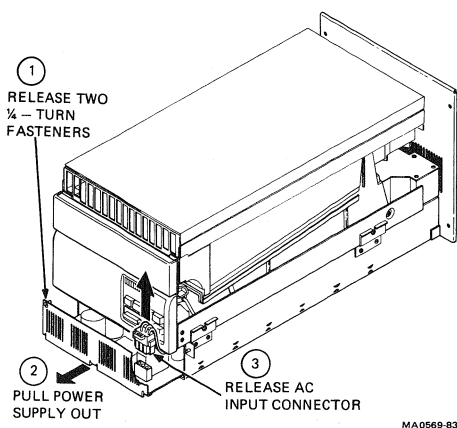

Figure 4-9 Removing the Power Supply Module
1. Release power supply module by loosening two 1/4-turn fasteners at lower front of drive (Figure 4-9).
3. Unplug ac power connector (Figure 4-9).